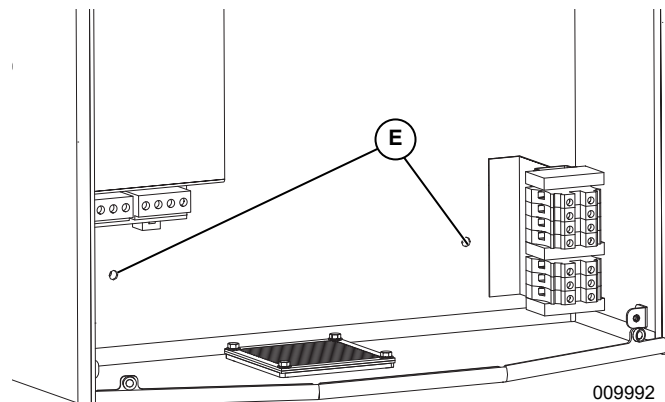

Figure 4-4. Mounting Holes
5. See **Figure 4-4**. Secure inverter to wall with two fasteners through mounting holes (E).